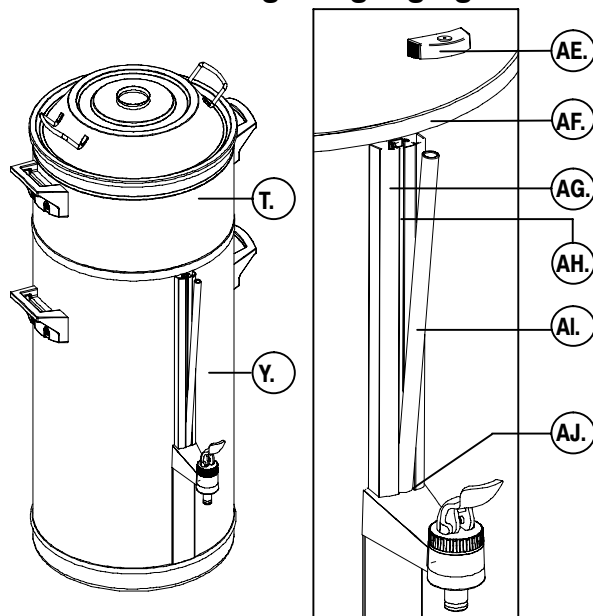

Fig. 10 Placing the sight glass cover
- Clean the gauge glass (fig.10):